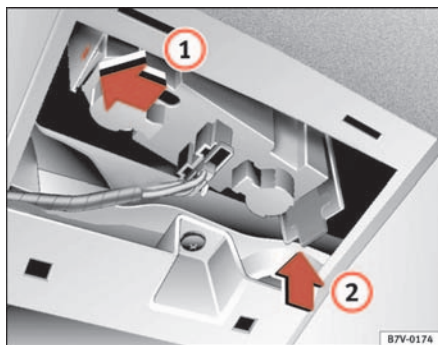

Fig. 167 Lights on tailgate
- Fit the lampholder in the corresponding opening **1** at the front tab and press the lampholder upwards at the back **2**, until the elastic tab engages ⇒ fig. 167.